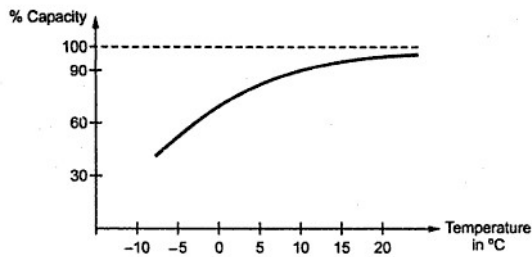

Fig. 1.28 Effect of temperature on battery capacity
3. **Temperature** : As temperature increases, the battery capacity increases. This is shown in the Fig. 1.28.